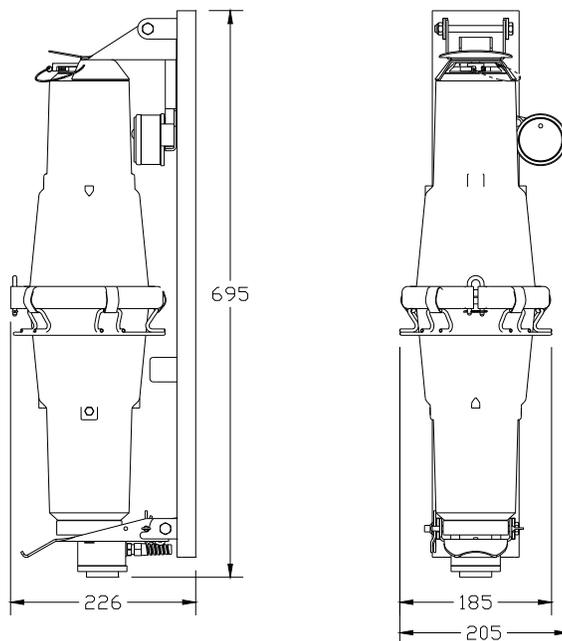

Figure 13-16 - JoTron Float-free SFRM Capsule
**Note!** The mounting pattern provided in Figure 13-16 - JoTron Float-free SFRM Capsule above, is applicable to the **VDR-100G2S Simplified FRM only**.